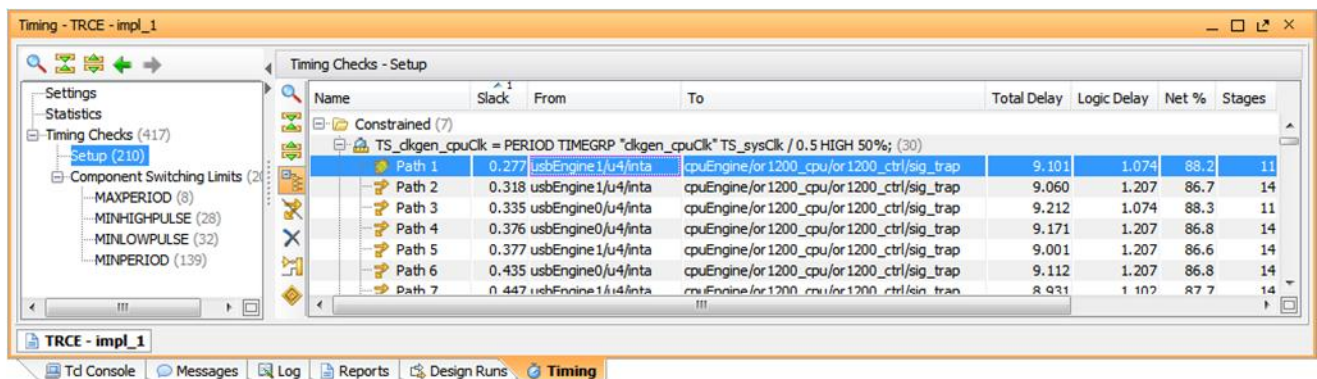

Figure 26: Analyzing Timing
2. In the Timing view, select **Path 1**, as shown in FIGURE 26.